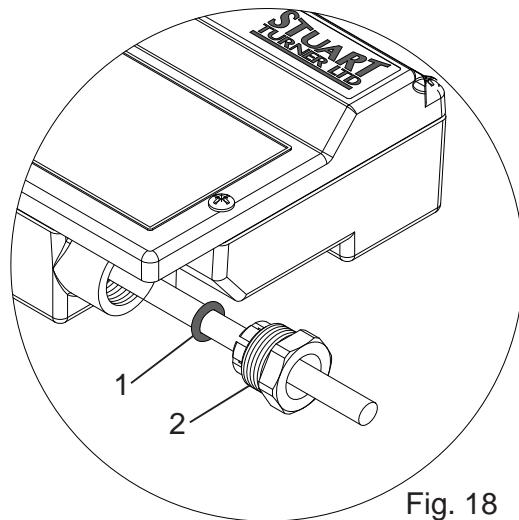

Fig. 18
To enable correct assembly of the cable gland the 'O'-ring (Fig. 18 item 1) must be placed over the cable before the clamping insert (Fig. 18 item 2) can be tightened.